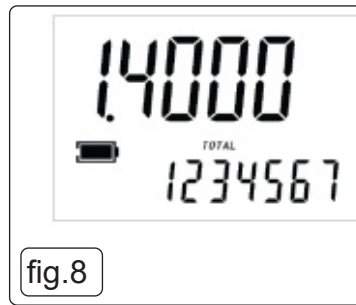

fig.8
- 5.4.5. To display correction factor and Total (fig.8)
- 5.6.2. Reset total (5.2.4) fig.8 to zero.